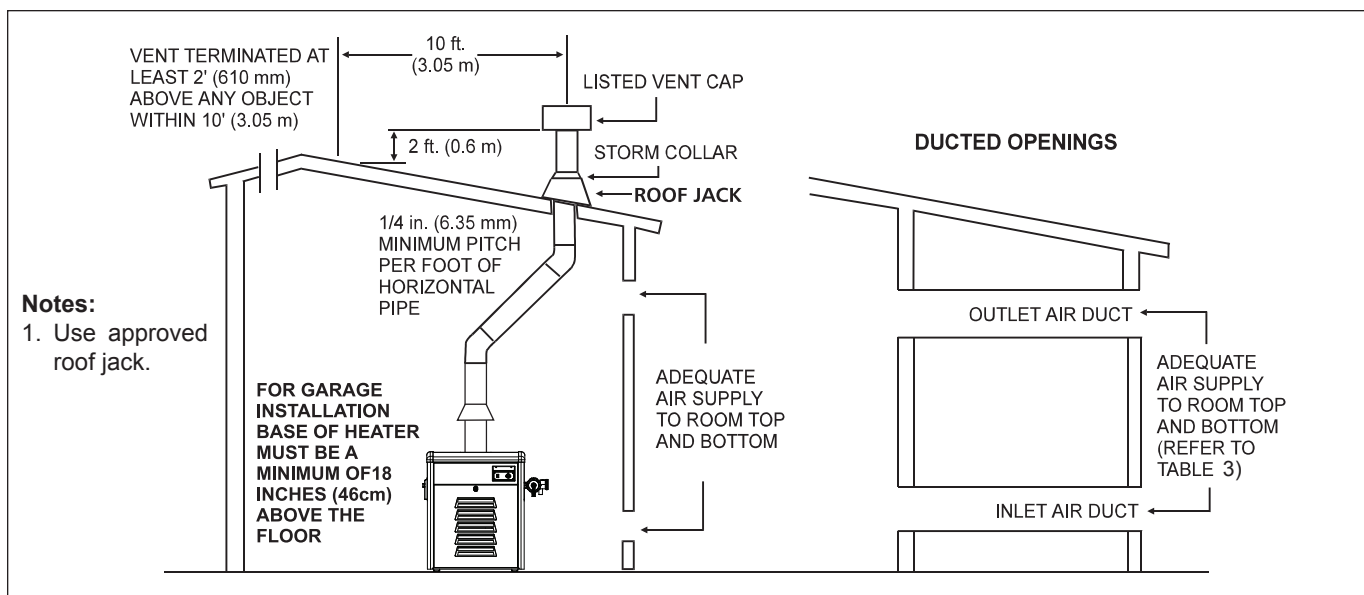

Figure 5. Indoor Installation Venting (USA), or Outdoor Shelter (Canada)
with two permanent air supply openings; one within 12 inches (305mm) of the ceiling, the other within 12 inches (305mm) of the floor. All indoor installations must have openings to outside air for combustion, ventilation, and dilution of flue gases from inside the building (see Figure 5 and Table 3). Zodiac Pool Systems, Inc. does not recommend indoor installations that do not provide combustion air from outside the building.
Outside Air Supply: When combustion air is supplied directly through an outside wall, each opening should have a minimum free area of one square inch per 4,000 BTU/h (1.2kW) input of the total input rating of all appliances in the enclosed area. If air is provided through horizontal ducts, each opening and duct must provide one square inch of flow area for each 2000 BTU/h (0.6 kW). These requirements are summarized in Table 3. Note that the areas specified are net free areas and should be increased by 50 percent when the openings are covered by screens, louvers, grills or other protective covers (see Figure 5 and Table 3).
The draft hood outlet is to be connected to an unobstructed vent pipe of the same diameter, terminating outside the building. The vent must terminate at least two (2) feet (0.61 m) above the highest point of the roof or other object that is within 10 feet (3.05 m) of the vent termination. The vent pipe must have a listed vent cap which allows a full equivalent opening for flue products (see Figure 5). The top of the vent cap must be at least five feet in vertical height above the draft hood outlet.